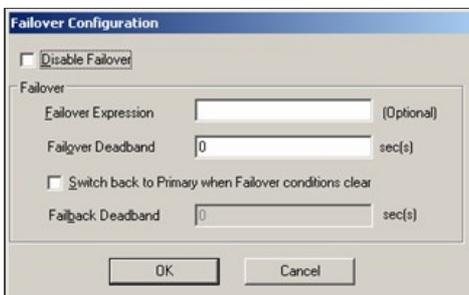

Figure 10: Failover Configuration Default Settings
2. Click **OK** and leave the default settings as shown in Figure 10 (below).